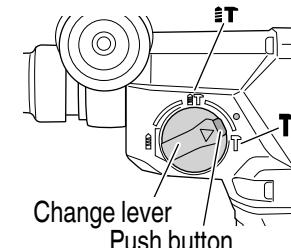

Fig. 28
- (1) Mount the bull point or cold chisel.
- (2) Press the push button and set the change lever to middle of **BT** mark and **T** mark (Fig. 28).